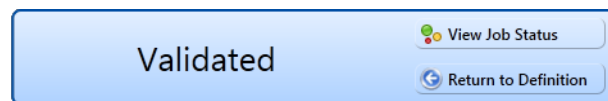

Figure 10-47. Validated Message
- 14 When the validation process completes and the following message displays (Figure 10-47), click  **View Job Status** to open the *Job Status* window or  **Return to Definition** to open the *Definitions* window.